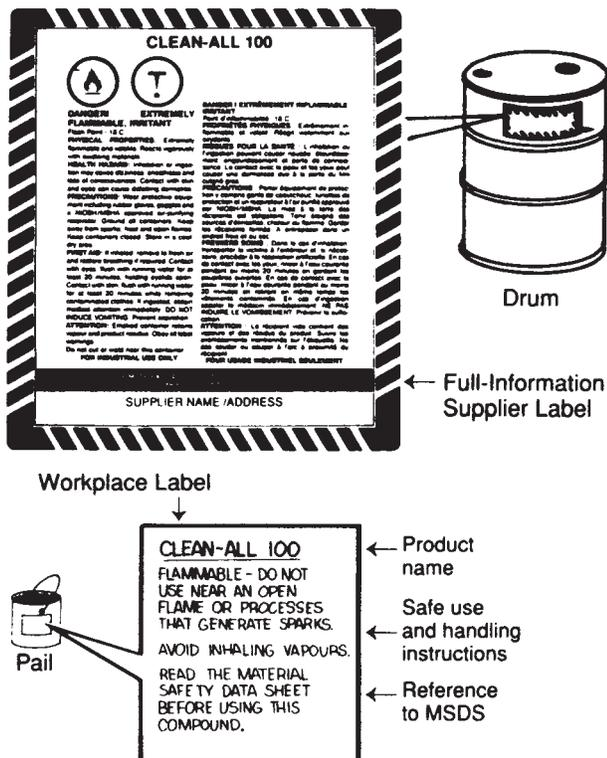

Figure 11.1 Hazardous materials should be identified
- Some materials may have labels that indicate a fire hazard Figure 11.1